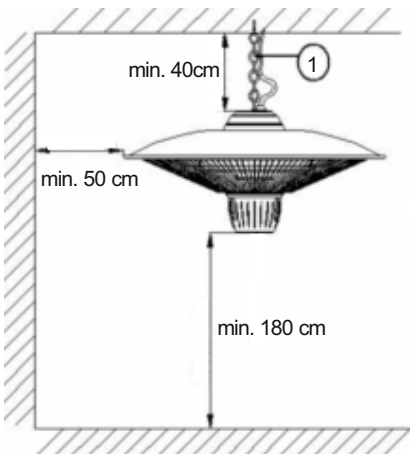

Fig. 4A
- Chain with a ring at one end and a carabiner at the other end (1)
- An additional chain with carabiners at both ends of the chain (7)
- Metal expansion bolt with a hanging eye with a diameter of 8mm (8)
I. Ceiling mounting - figure 4A